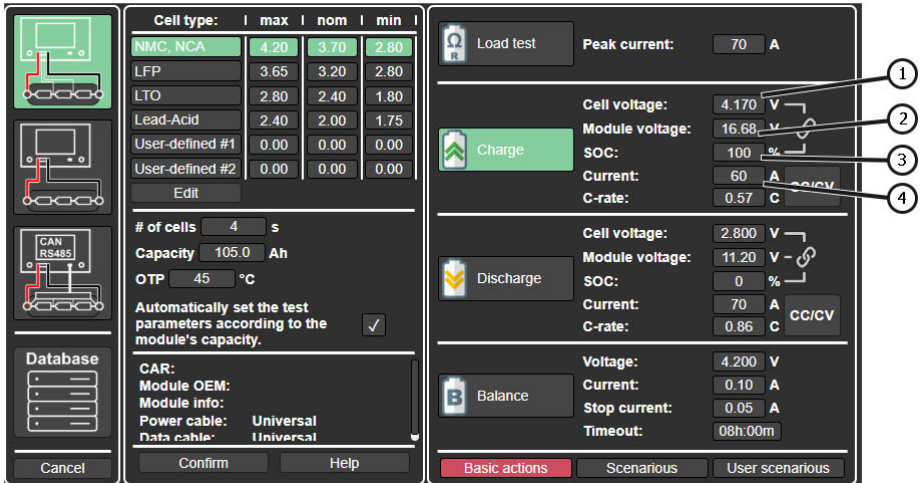

Figure 17
3. Next, set the charging current. This can be done in several ways (the items below correspond to positions in Figure 17):
- Directly enter the current in amperes (parameter 4 see Fig. 17);